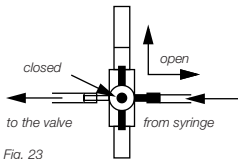

Fig. 23
- a) Turn the three-way faucet as shown in Fig. 23 and fill the manometer to at least 5 cmH₂O.
- b) Turn the three-way faucet as shown in Fig. 23 and fill the manometer to 10 cmH₂O above the expected opening pressure. (Example: For testing a *M.blue*, having an opening pressure setting of the fixed DP-unit of 5 cmH₂O and the adjustable gravitational unit of 20 cmH₂O, the manometer is filled to 15 cmH₂O with the shunt in the horizontal position and to 35 cmH₂O with the shunt in the vertical position).